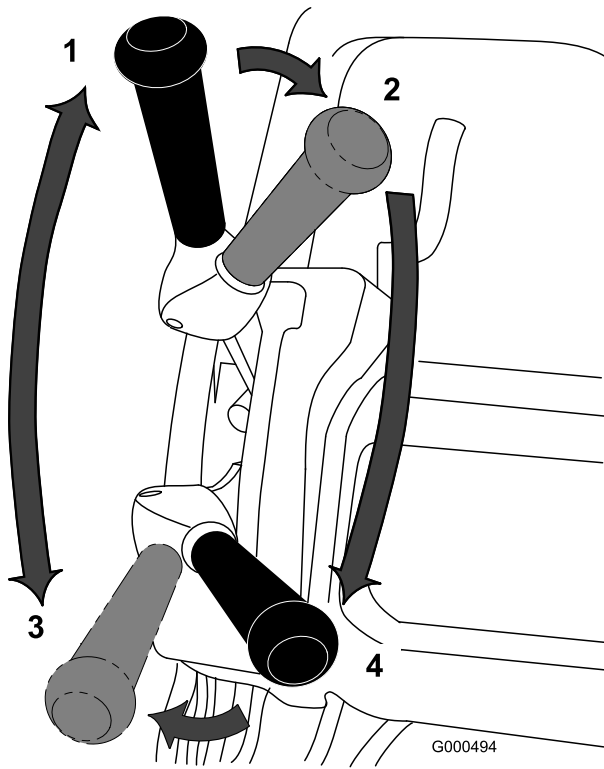

Figure 27
1. Start the engine, set the throttle to a reduced speed, push down on the handle to raise the cutting unit, depress the operator presence control, move the traction lever to the Engaged position and transport the mower onto the collar of the green (Figure 27).
2. Move the traction lever to the Disengaged position and Engage the reel drive lever (Figure 27).
3. Move the traction lever to the Engaged position, increase the throttle speed until the mower is traveling at the desired ground speed, drive the mower out onto the green area, lower the front of the mower down and commence operation (Figure 27).